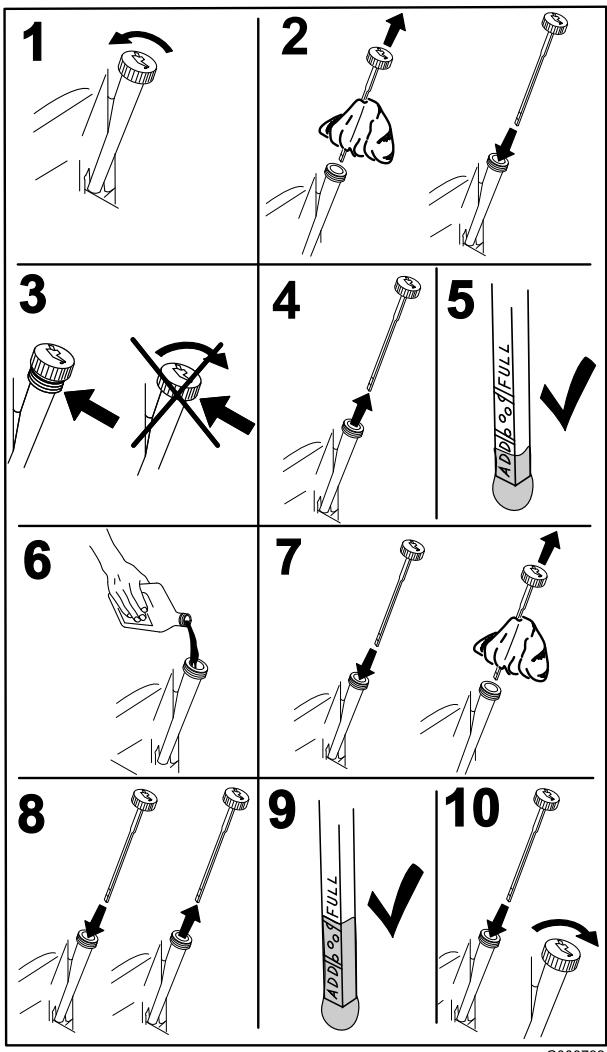

Figure 39
- To keep dirt, grass clippings, etc., out of the engine, clean the area around the oil-fill cap and dipstick before removing it (Figure 39).